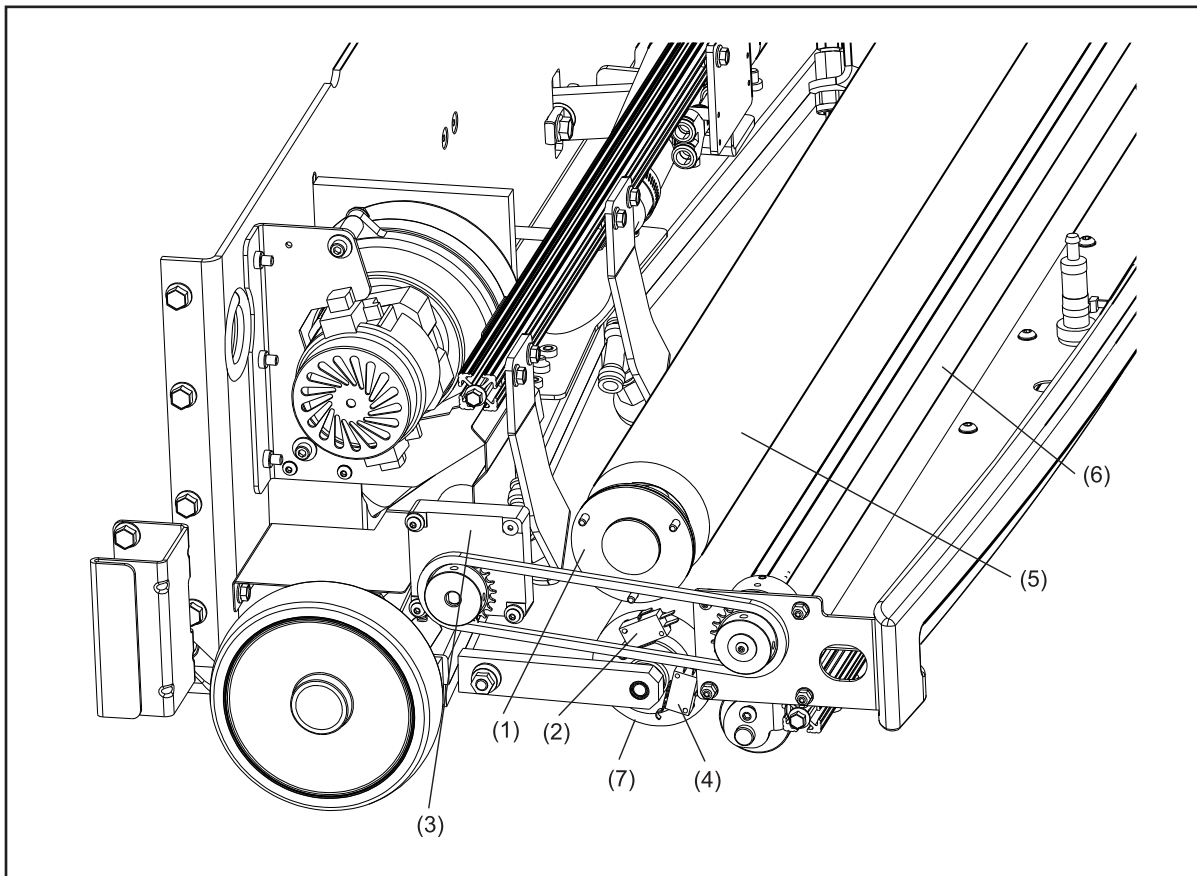

Figure 7-2. Duster Cloth System
1. The duster cloth removes dust and dirt from the lane surface. Refer to *Figure 7-2*.